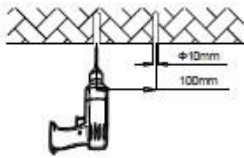

Figure 3
- Step 1. Use a pen or sharp tool to mark the bracket holes on the mounting surface, then drill them. (Figure 3)